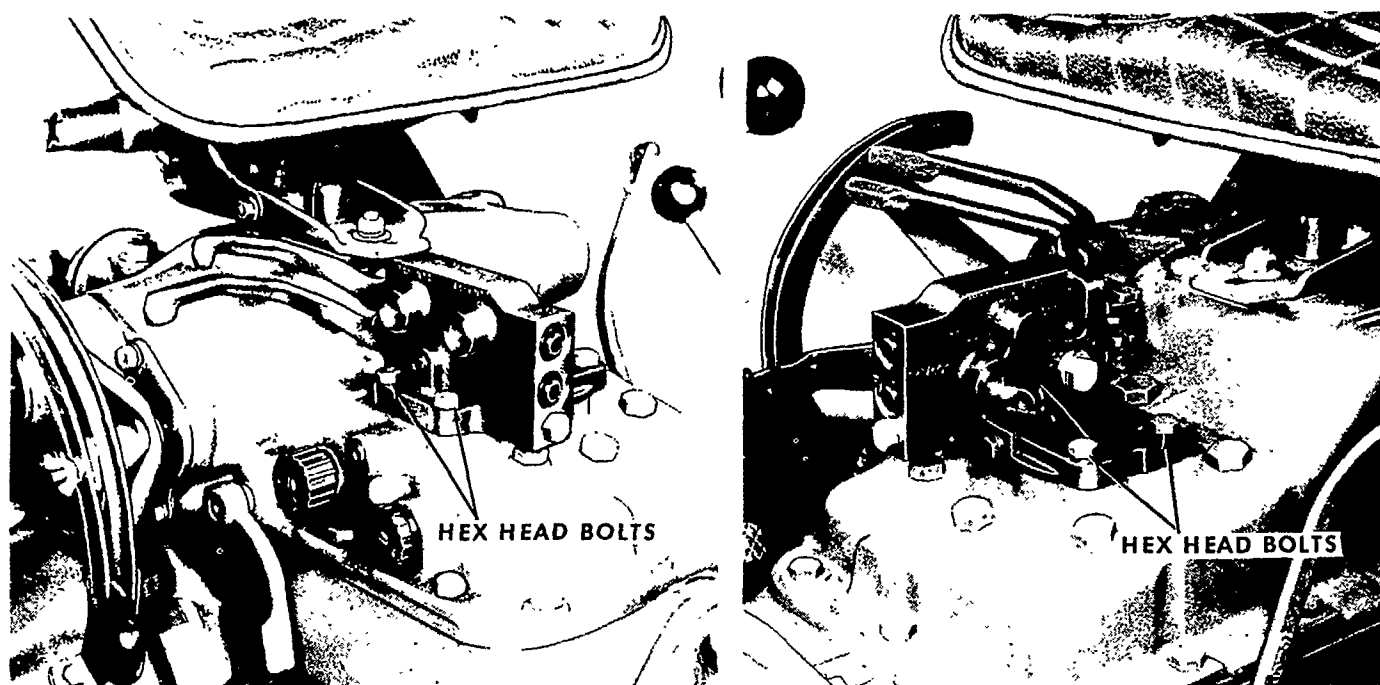

Figure 4
3. Remove the four valve-to-cover retaining bolts and lock washers. See Figure 4. Place them aside for later installation.